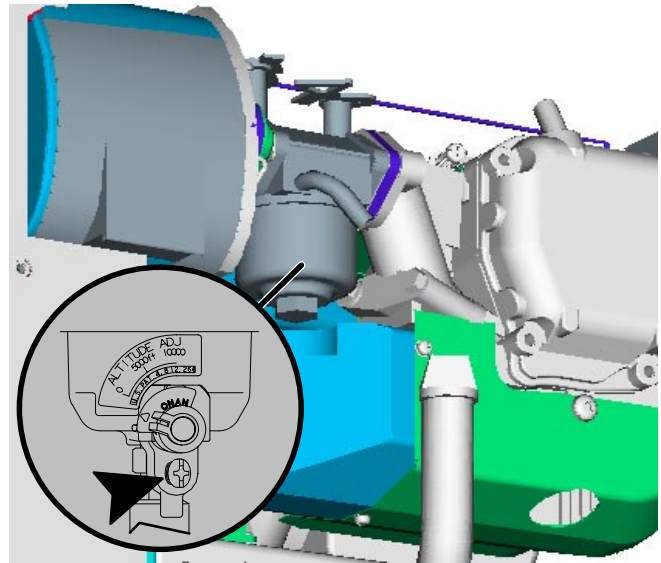

FIGURE 9. CARBURETOR DRAIN VALVE
8. Draining the carburetor float bowl prevents deposits of gum from clogging the tiny passages in the carburetor as the gasoline in the bowl evaporates during storage. If the carburetor has a drain (Figure 9), drain it as follows: